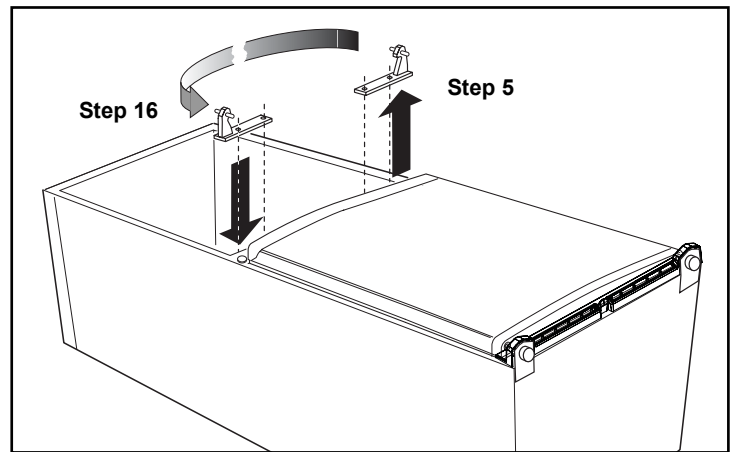

Fig.4
5. Remove centre hinge block (2 screws) and spacer (if fitted). *Fig. 4*
16. Refit Centre Hinge (and spacer if fitted). Make sure the screws are fully tightened. See *Fig. 4*.